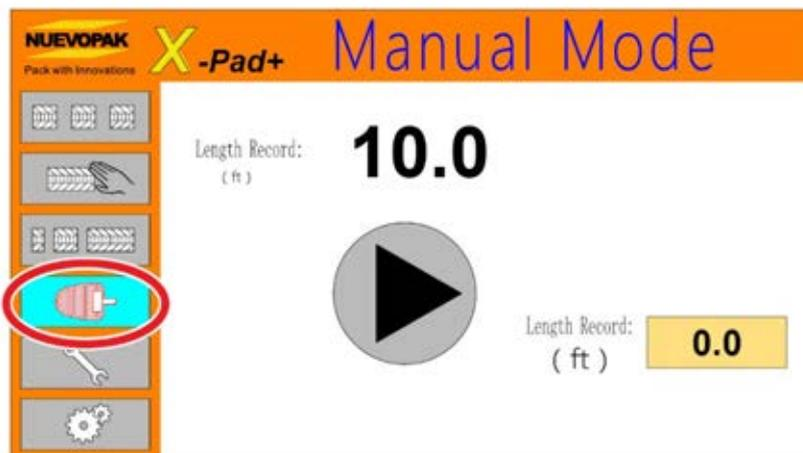

Figure 44 Menu Bar - Manual Mode
- To dispense a single output, press the **Individual Start Key** (refer to Figure 44).